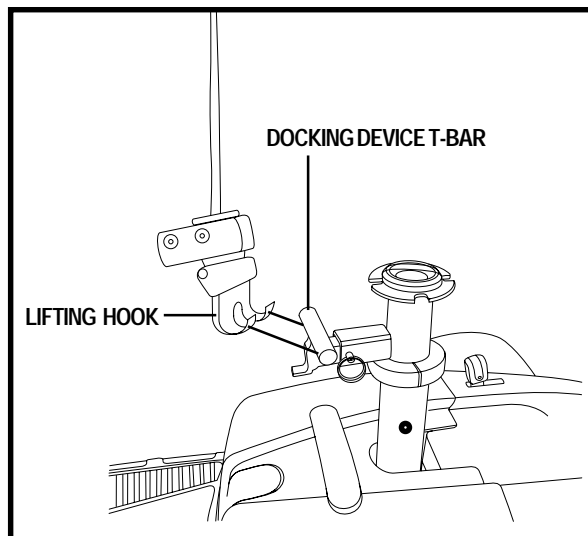

Figure 15. Lifting Hook Placement
4. Operate the lift (via the hand/remote control in the downward direction until the lifting hook reaches the T-bar. The lift strap should drop straight down to the T-bar. **See figure 15.**
5. Place the lifting hook onto the docking device T-bar. **See figure 15.**